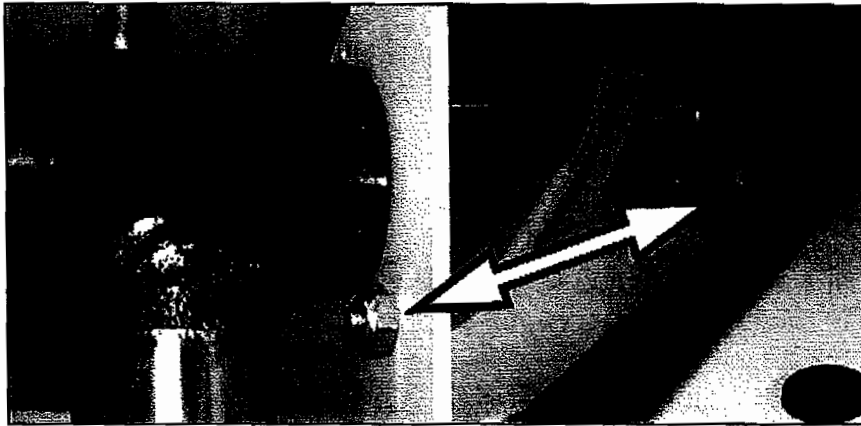

Figure 1
2. Locate and identify the upper lift cylinder pin retainer bolt and locknut as shown in Figure 1.